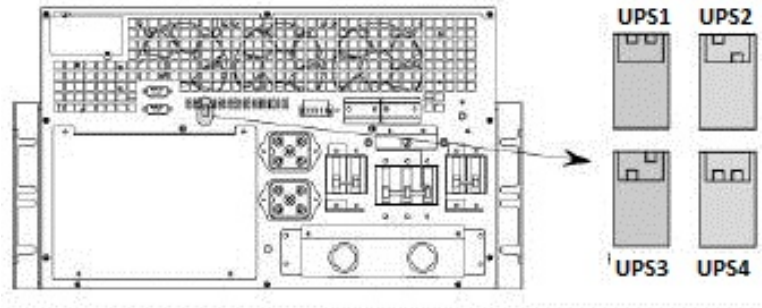

FIG 63 –PARALLEL DIP SWITCH
5. Each UPS needs a different configuration of the DIP switch as identification of unit in the parallel system (FIG 63).